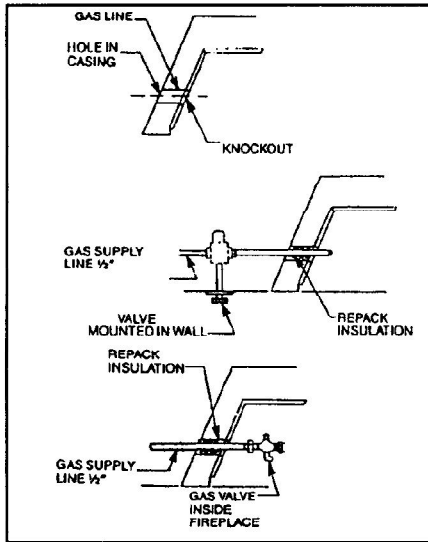

Figure 3. Gas line installation - Prefabricated Fireplace
- D. **Prefabricated fireplace:** Refer to the manufacturer's fireplace instruction manual for specific information regarding the running of a gas line into that particular model. A typical installation involves the insertion of a 1/2 inch gas pipe through the gas line tube provided by the manufacturer from **outside** the fireplace. The Knockout on the inside of the fireplace is removed as the gas pipe is punched through the fireplace. (See **Figure 3**).